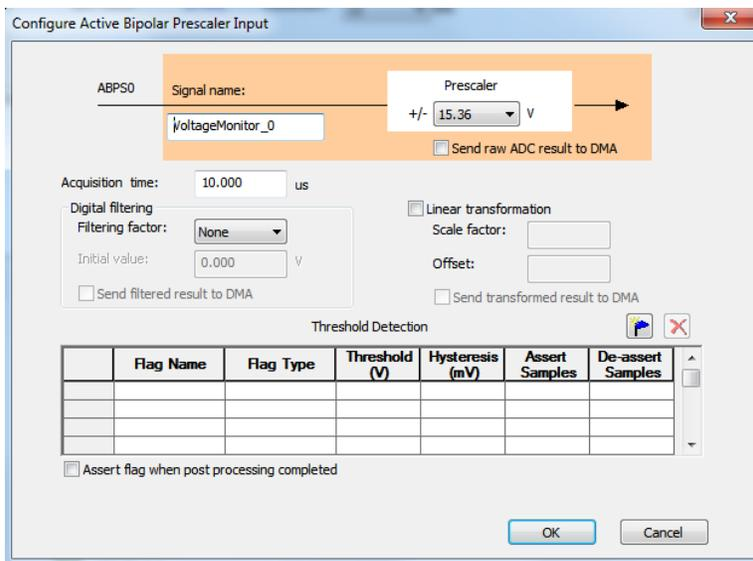

Figure 16 • Active Bipolar Prescaler Configurator
3. Select **Active Bipolar Prescaler Input** or **ADC Direct Input** from the **Add service** list, and click **Add**. If the analog input value is less than the ADC voltage reference, choose the **ADC Direct Input** service for a higher accuracy for the application. An analog service configurator window opens as shown in below Figure 16, allowing you to customize the service.